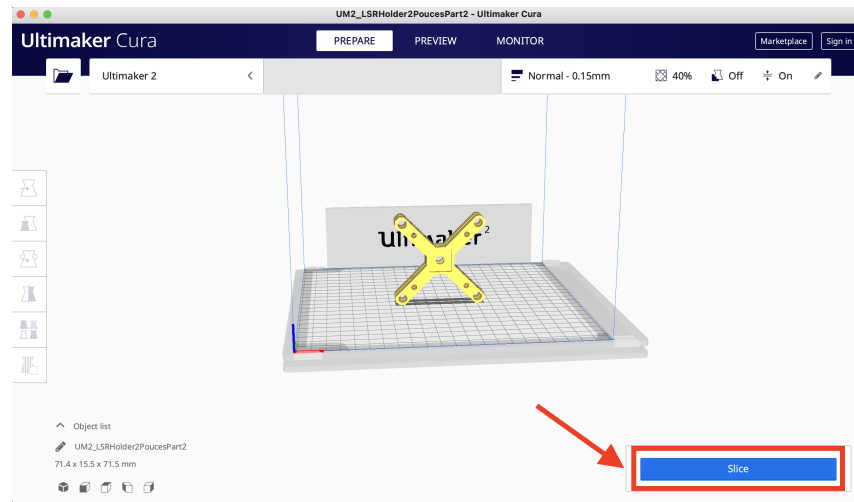

FIGURE 2
7. Export the .gcode file from Cura by clicking on slice in the bottom-right of your screen (Figure 2). Then, click on Save to Disk. This automatically saves your project on the SD card.